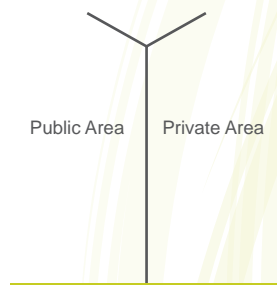

Fig.3
- To keep people in and out Y shaped posts should be used (Fig.3).